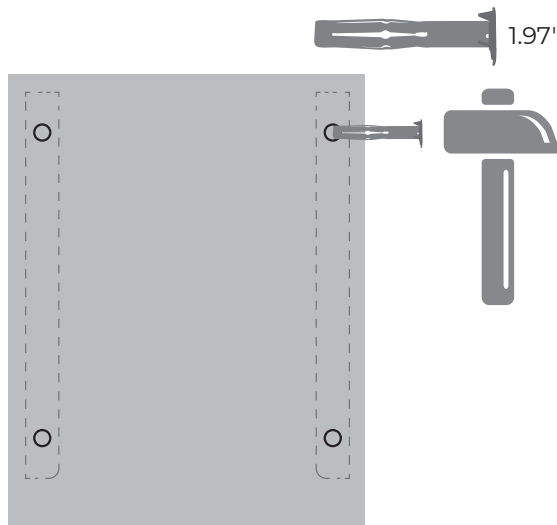

Fig. 5.4.5
3. Hammer the expansion sleeve into the corresponding hole (See Fig. 5.4.5)